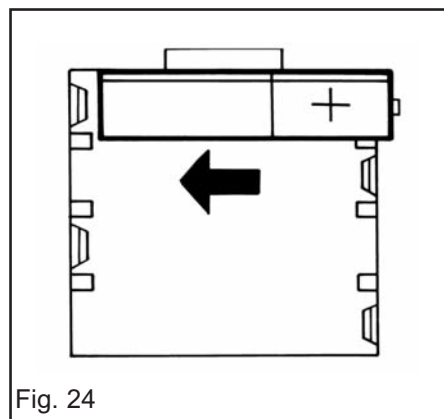

Fig. 24
- Replace batteries commencing with the bottom one working to the top (Fig. 24) Ensure that the negative (-) end of the batteries is under the location pegs in the housing before pushing the other end into position.